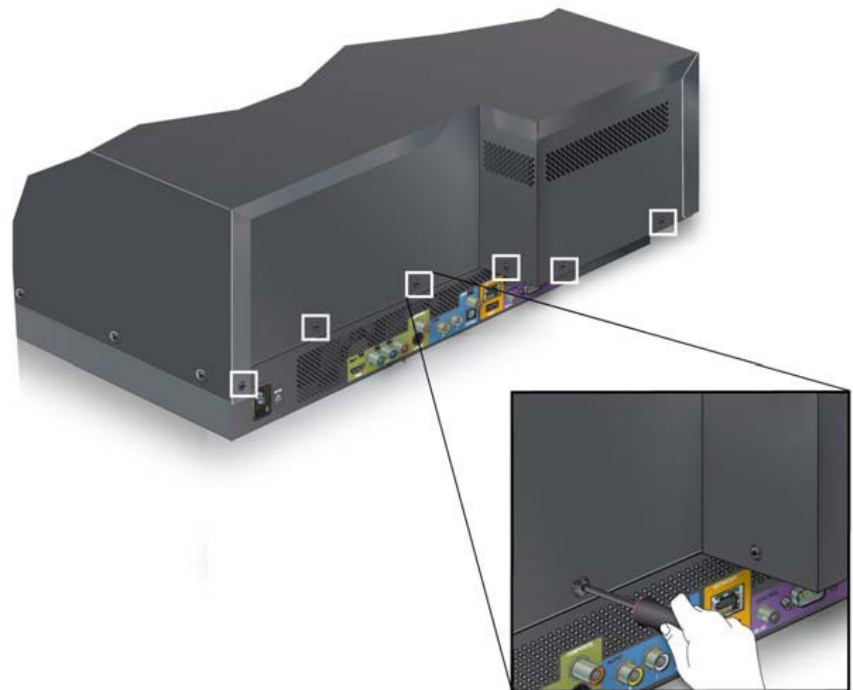

Figure 3
4. Remove 6 screws from the back using the 2.5 mm hex screwdriver. See Figure 3.